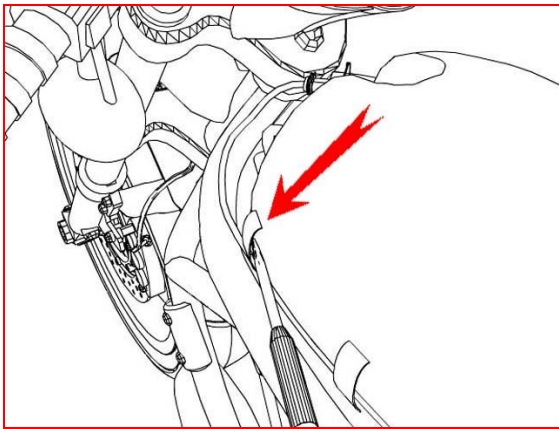

Figure 2
2. Use a screwdriver to disengage the 8 clips retaining the airbox lid. The front clip is not visible and must be reached from the right side. (see figure 2)